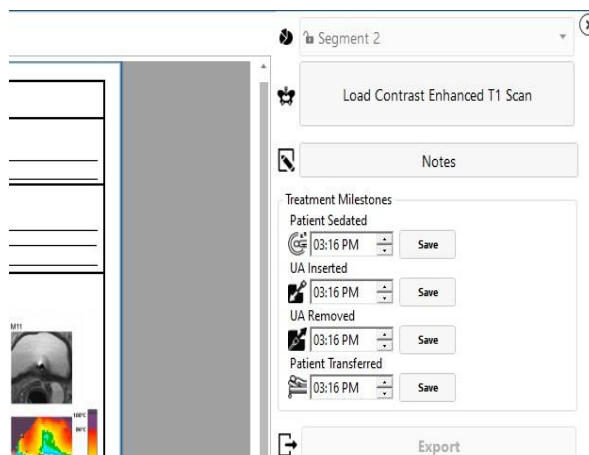

Figure 62: Treatment Milestones panel in Reports workspace
**MRI Technologist:** Use the Treatment Milestones panel in the *Reports* workspace (*Figure 62*) to record:
- The time when the Urologist removed the ultrasound applicator (UA), and